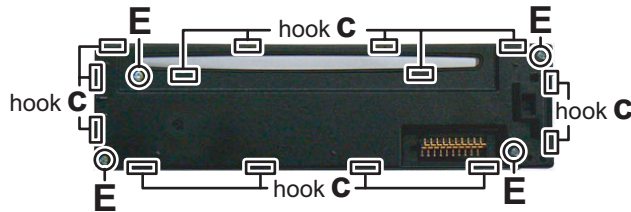

Fig.7
3.1.5 Removing the Switch unit (See Fig.7)